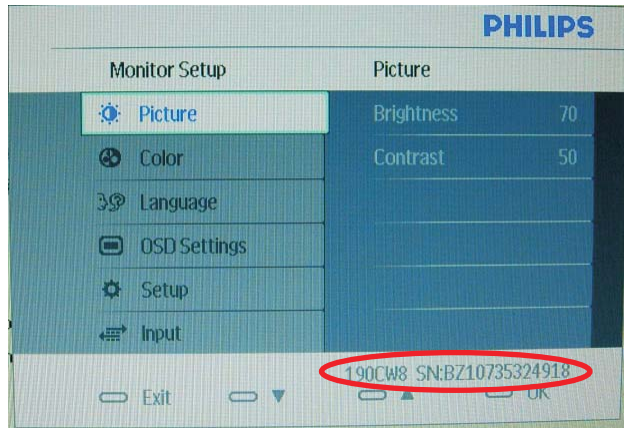

Fig. 24
4. Press "MENU" button . The S/N is refreshed in the OSD menu as Fig.24.